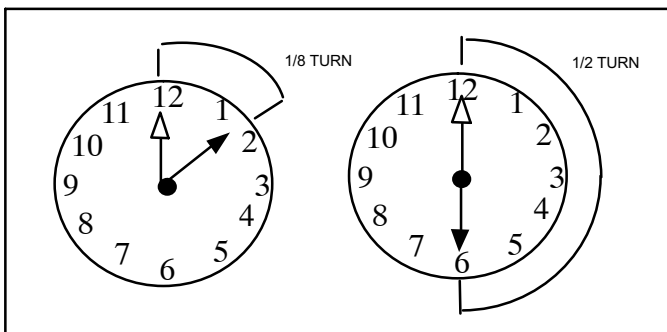

Figure 22. Tightening Distance
- Attach the stubbed end of the TXV to the liquid line orifice housing. Finger tighten and use an appropriately sized wrench to turn an additional 1/2 turn clockwise as illustrated in figure 22, or 20 ft-lb.
- Attach the liquid line assembly to the TXV. Finger tighten and use an appropriately sized wrench to turn an additional 1/2 turn clockwise as illustrated in figure 22, or 20 ft-lb.
- Connect the equalizer line from the TXV to the equalizer suction port on the suction line. Finger tighten the flare nut plus 1/8 turn (7 ft-lbs) as illustrated in figure 22.